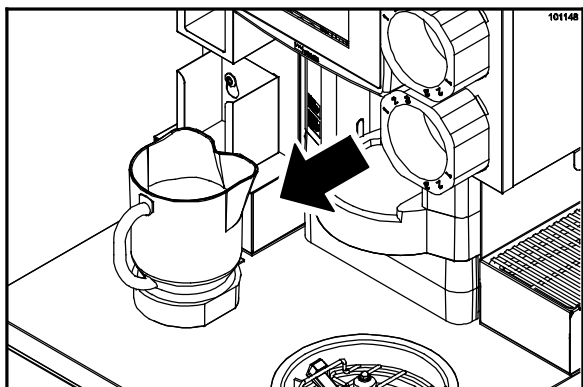

Figure 17
1. Remove the blender pitcher. Discard any remaining product into the back sink. Take the pitcher to the 3-compartment sink for cleaning. (See Figure 17.)